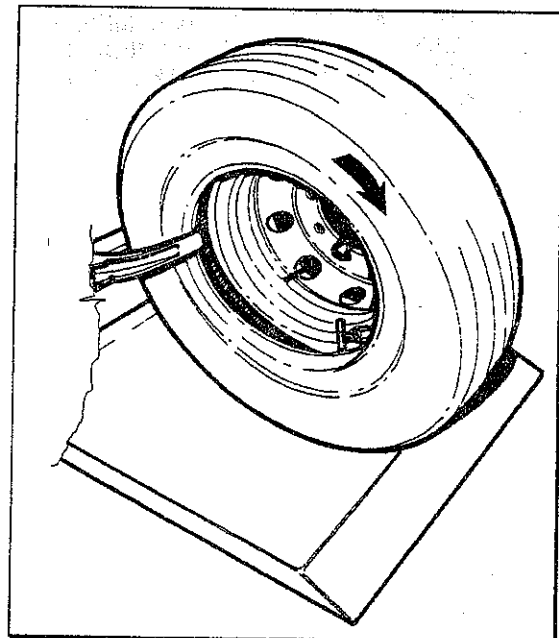

Fig.35
2. Position the mounting hook about 3/4" (1.5 cm) to the inside of the rim edge and 1/2" (1 cm) away radially. Rotate the chuck clockwise. Normally less than 1/4 of a revolution is sufficient to mount the first bead (Fig.35).